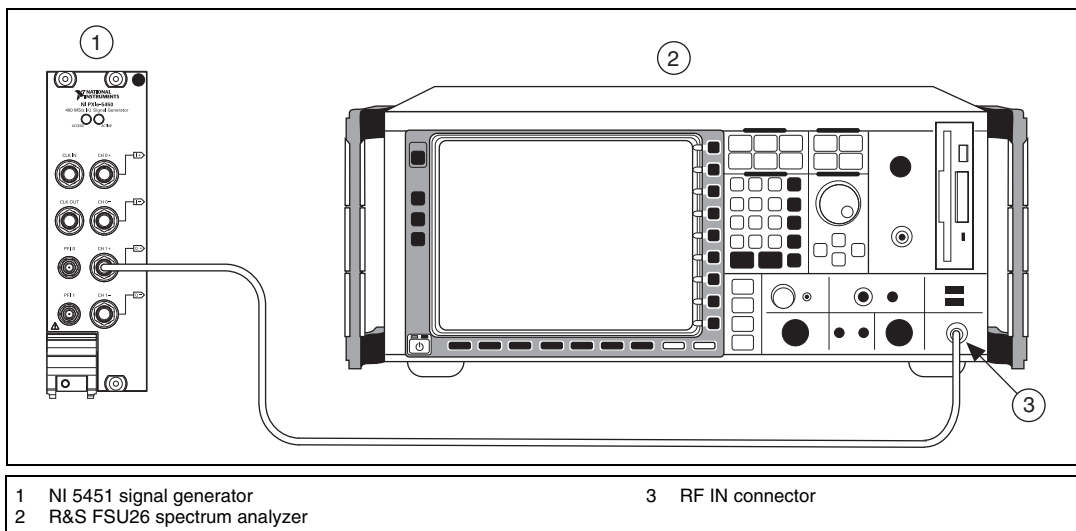

Figure 12. NI 5451 Connection to Spectrum Analyzer (CH 1)
12. Connect positive CH 1 to the spectrum analyzer, as shown in Figure 12.